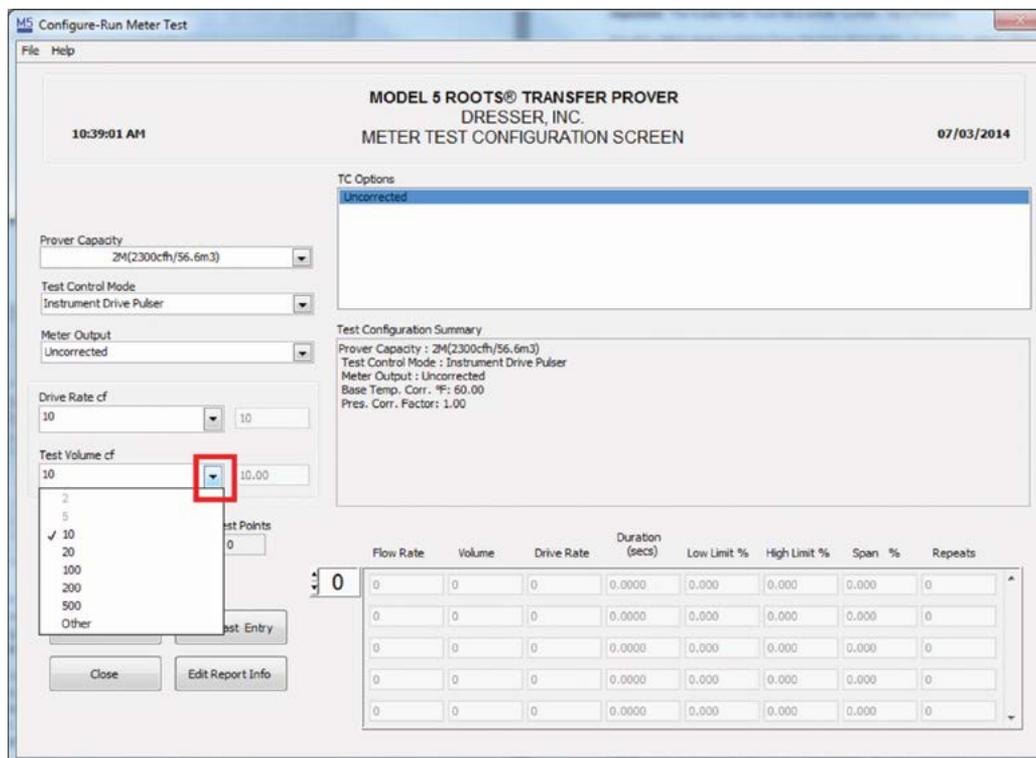

Figure 87: Meter Volume Pull Down
1. To change the Test Volume, click on the black arrow on the right-hand side of the box to display the drop down menu, as shown in **Figure 87**. Select from the default values, or choose “Other” to manually enter the Test Volume into the box immediately to the right.